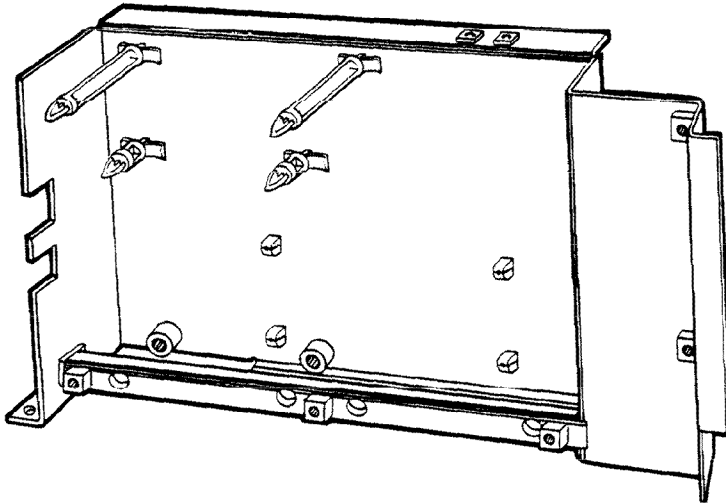

FIGURE 1. RICHCO AND FASTEX CLIP POSITIONING
1. Install the two RICHCO clips (plastic spacer mounts) and the two Fastex clips in their positions on the left-hand side of the metal chassis bracket. See Figure 1.